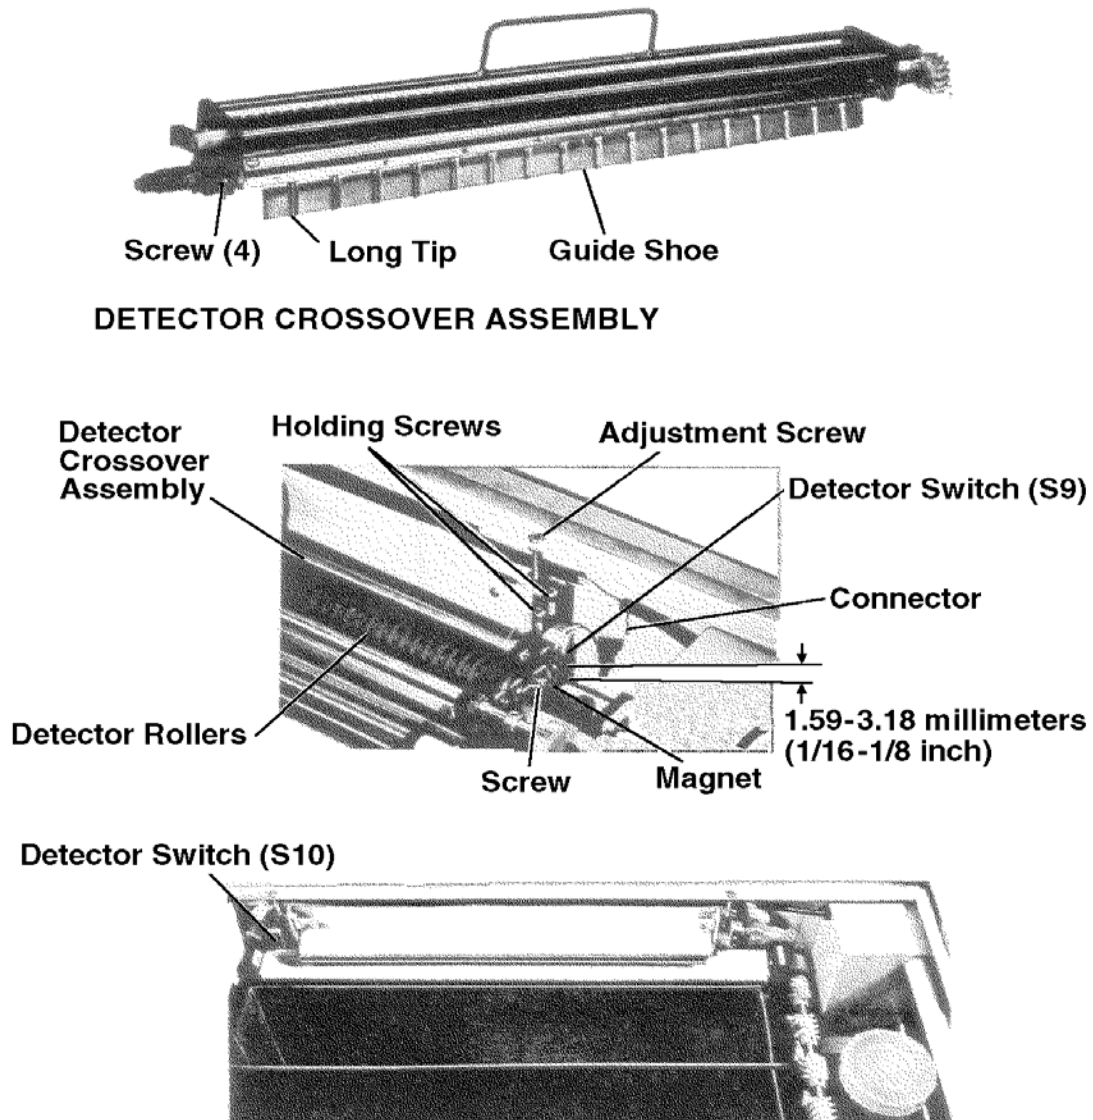
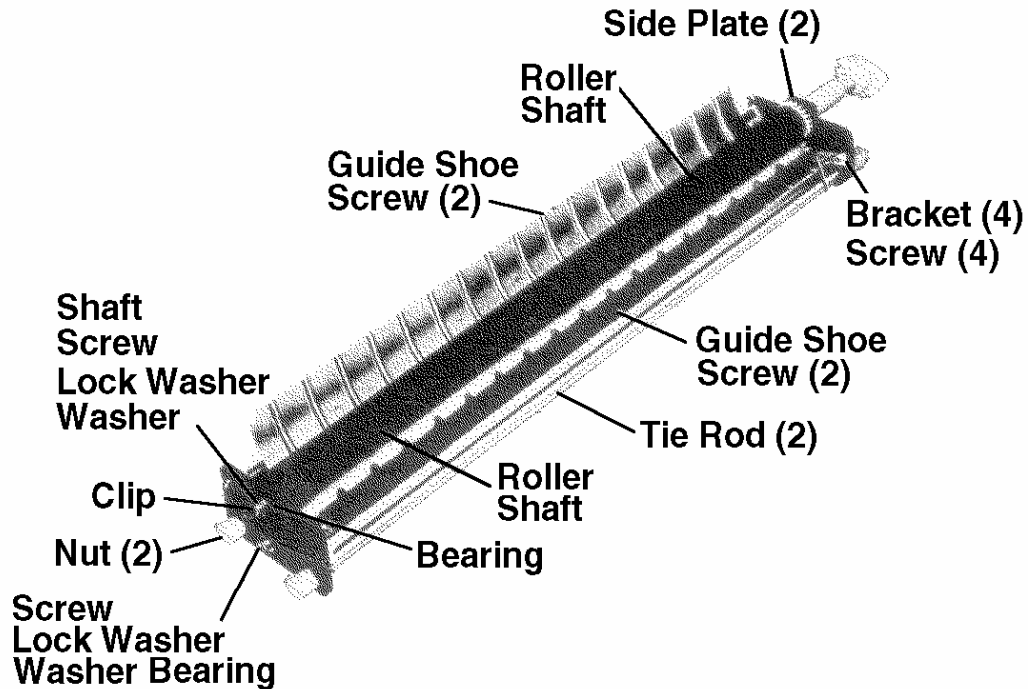

Figure 2-8. Detector crossover assembly.
Figure 2-9. Crossover assembly.
b. **Inspect the Detector Entrance Crossover Assembly.** Refer to figure 2-8.
(2) Check the concentricity of the roller. Rotate the rollers. Check the following components and replace as necessary:
(3) Check the guide shoe for burrs. Examine the ribs and tips of guide shoe for burrs. Use fine No. 400 sandpaper to remove any roughness. Refer to figure 2-8.
(4) Check the adjustment of the detector switch. Refer to figure 2-8. Check for proper detector switch adjustment by doing the following:
(5) Check the detector switch for corrosion. Check the switch for signs of corrosion. Replace if necessary.
e. **Inspect the Crossover Assemblies.** Refer to figure 2-9 for an example of a crossover assembly. You inspect both the developer-fixer crossover assembly and the fixer-wash crossover assembly.